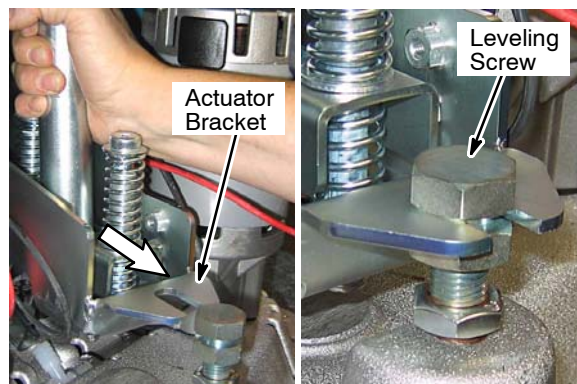

Fig. 8
8. Guide the actuator bracket into the leveling screw (Figure 8). Do not tighten down the lock nut at this time. The scrub head may need to be leveled as described later in the instructions.